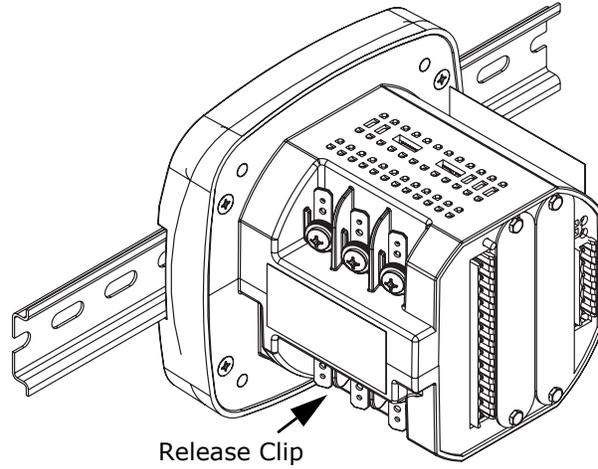

Figure 3-7: Transducer on DIN Rail
- To remove the meter from the DIN Rail, pull down on the Release Clip to detach the unit from the rail (see Figure 3.7).